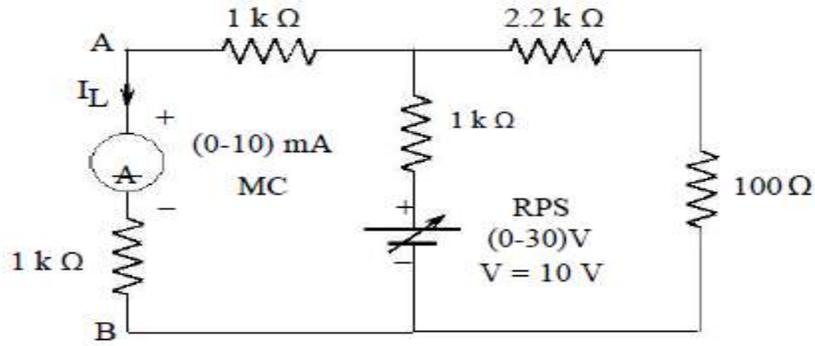

Fig 1.2
- Connect the circuit as per Fig 1.2.